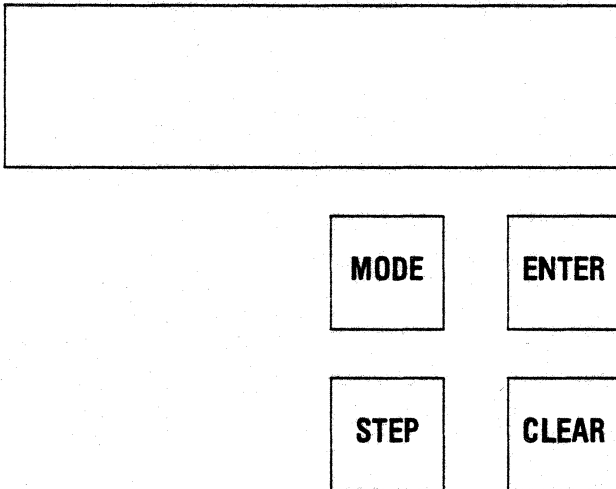

Figure 2-1 LCD and Control Switches
- Using the **MODE**, **STEP**, **ENTER**, and **CLEAR** switches (see Figure 2-1) to set the required parameters.
Four control panel keys below the LCD are used to place the printer in either selection mode and to select parameter settings (refer to Figure 2-1).